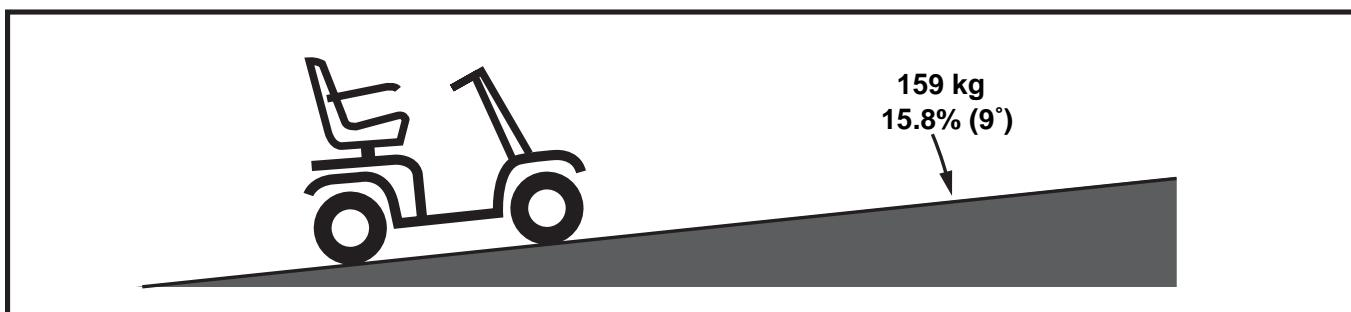

Figure 1. Maximum Recommended Incline Angle
**WARNING! Even though your scooter is capable of climbing slopes greater than those illustrated in figure 1, do not, under any circumstances, exceed the incline guidelines or any other specifications presented in this manual. Doing so could cause instability in your scooter, resulting in personal injury and/or damage to your scooter.**
Handicap public access ramps are not subject to government regulation in all countries and therefore do not necessarily share the same standard percent of slope. Other inclines may be natural or, if man-made, not designed specifically for scooters. Figure 1 illustrates your scooter's stability and its ability to climb grades under various weight loads and under controlled testing conditions.
**WARNING! Any attempt to climb or descend a slope steeper than what is shown in figure 1 may put your scooter in an unstable position and cause it to tip, resulting in personal injury.**